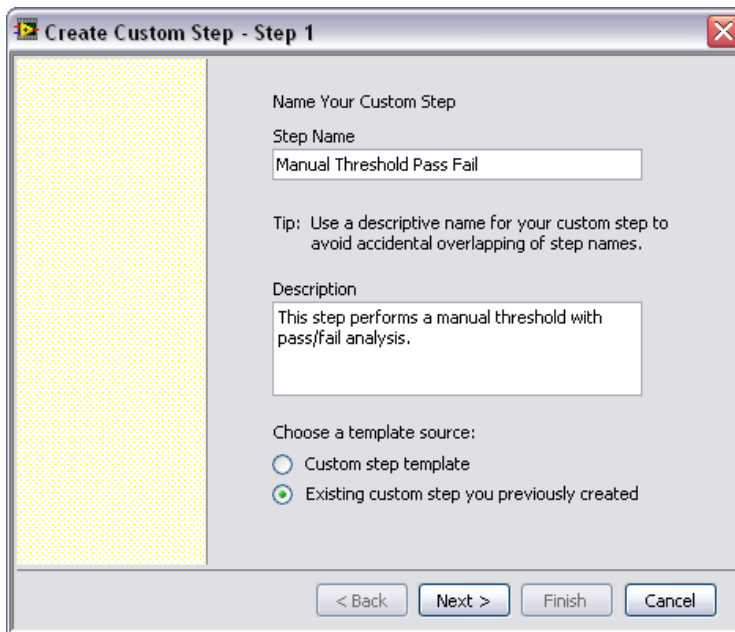

Figure 4-1. Creating a Custom Step from an Existing Step
5. Select the **Existing custom step you previously created** option. Figure 4-1 illustrates the correct option.